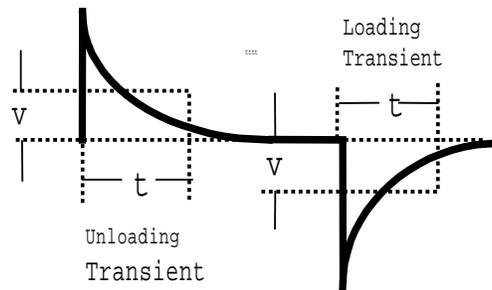

Figure 2-2. Transient Waveform
- f. Adjust the oscilloscope for a waveform similar to that in Figure 2-2.